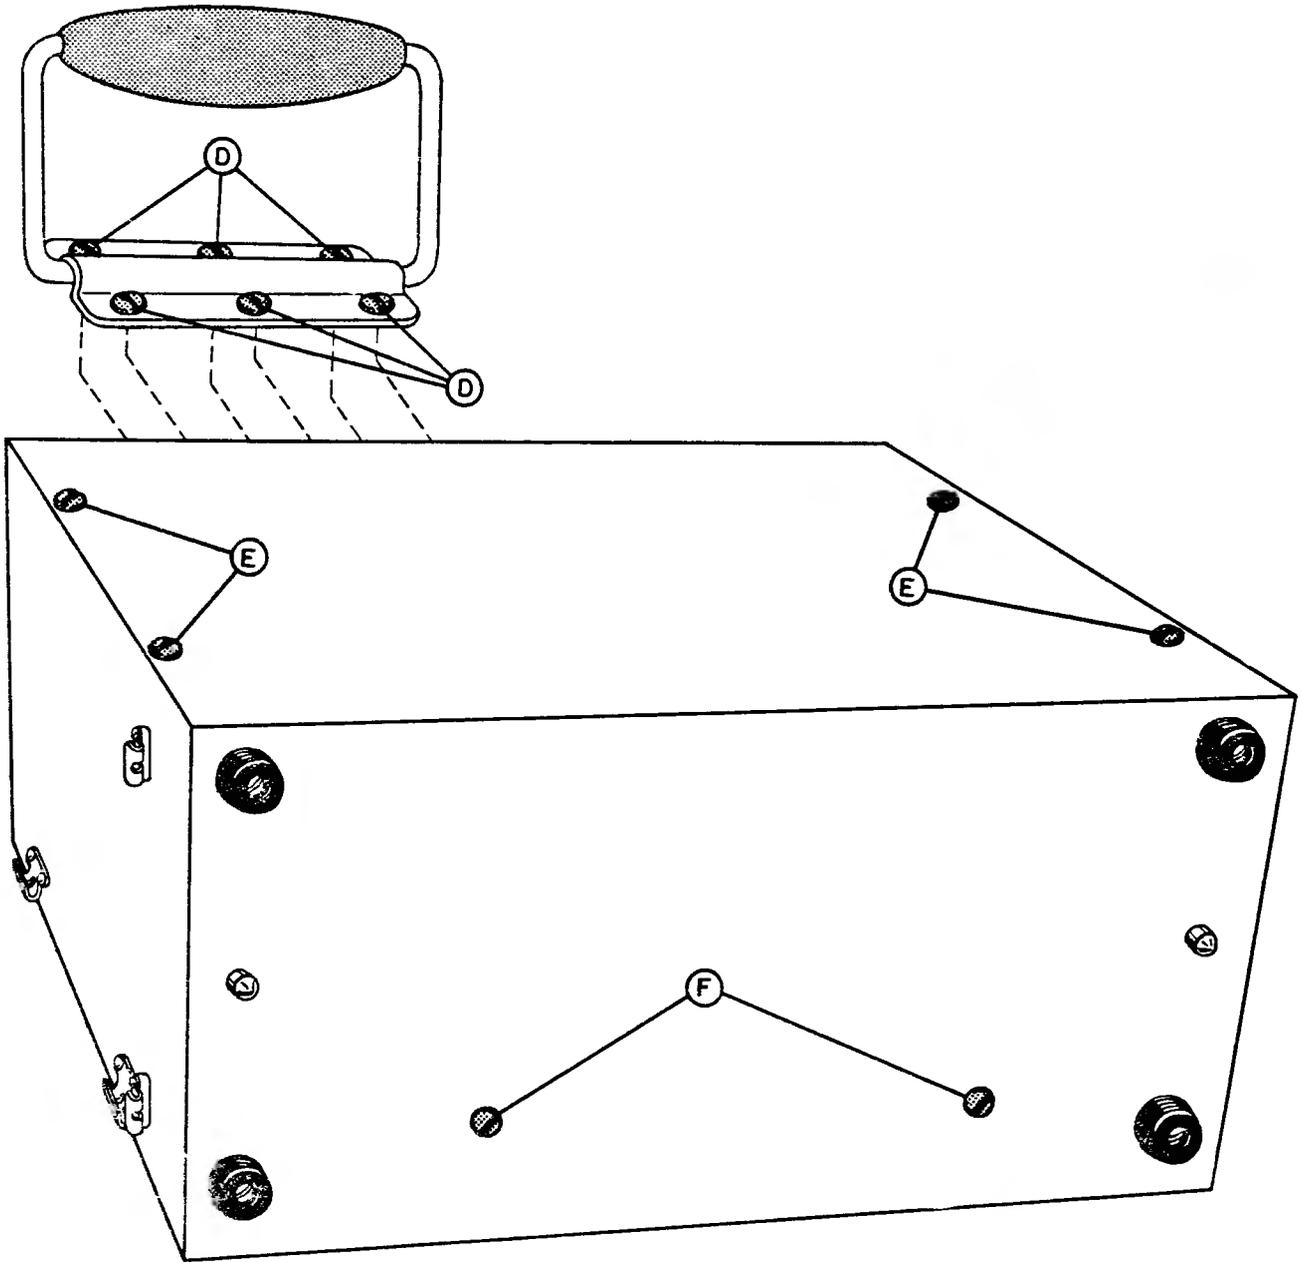

Figure 5-3. Removal of Test Set TS-687/TRM-1 from the Equipment Case
(See figure 5-3)
- a. Remove the test set from the equipment case in the manner described in paragraph 5-15 of this handbook. (See figure 5-3.)